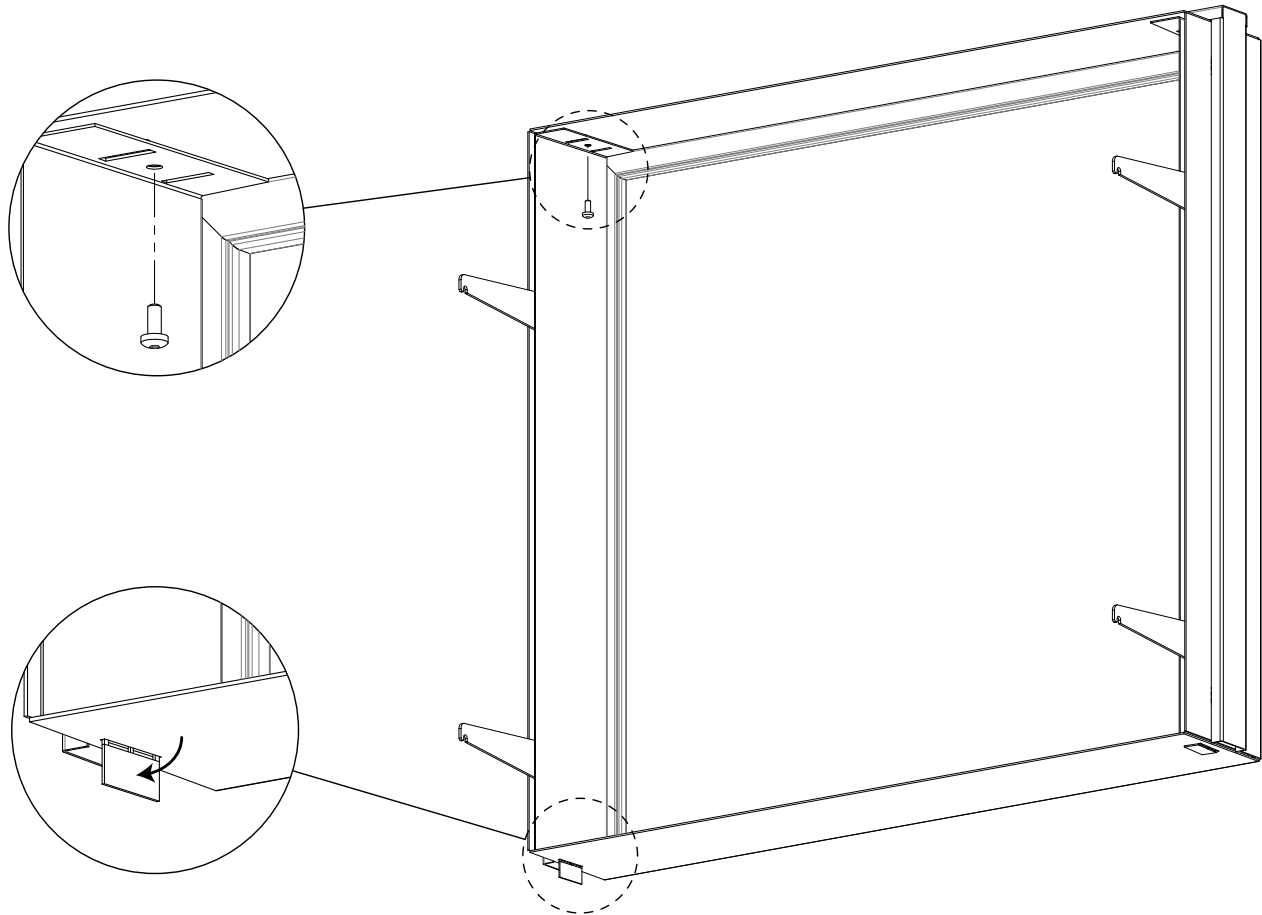

Figure 77: Safety Screen Removal
3. Slide each side brick panel into place along the sides of the firebox. The panels should rest flush with the back and sides of the firebox (refer to Figure 77).